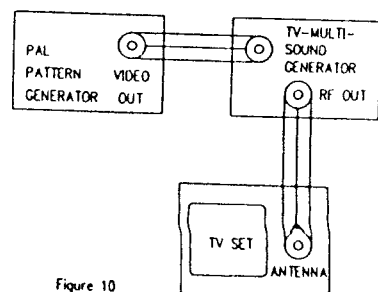

Figure 10
- 1) Receive the colour bar signal and STEREO SOUND by Fig. 10.